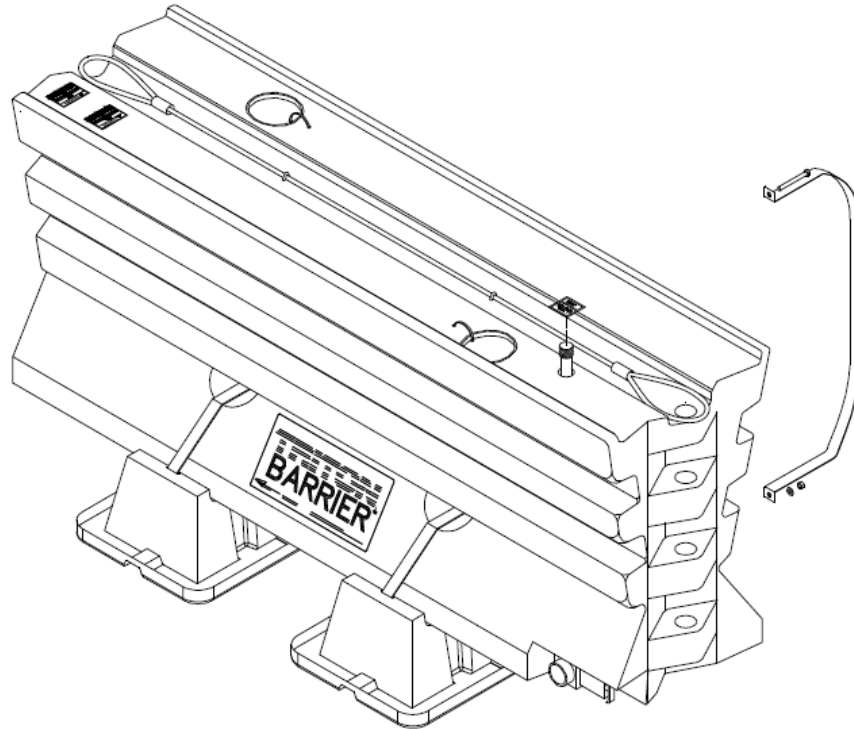

Figure 2
5. Attach pedestals to the Triton segments using a strap as shown in Figure 2 above and assembly drawing. Five segments with pedestals are required.